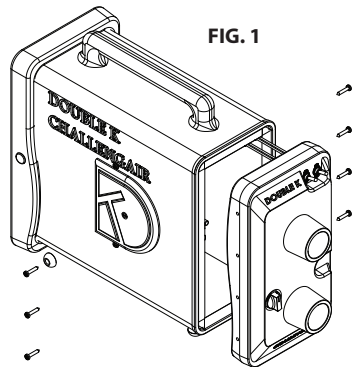

FIG. 1
**To Check and/or Replace Brushes:** (a) Unplug electrical cord from wall outlet. (b) Detach dryer faceplate by loosening the fastening screws. (Fig. 1) . (c) Remove front faceplate and set aside (motors and brushes are now visible and accessible). (Fig. 2) . (d) Find the flag connector on the top of the brush assembly. There is a wire leading to this connector. (e) Place a flathead screwdriver with a fine tip between the flag connector and the plastic brush housing. (f) Twist the screwdriver back and forth and gently wedge the flag connector out of the brush assembly. (g) Loosen the two brush assembly retainer bracket screws. (h) Remove the brush assembly. (i) Replace the brush assembly with the new one, making sure that the small tab on the bottom is fitted onto the corresponding slot on the motor frame. (j) Replace the brush assembly retainer bracket and tighten the screws which hold it in place. (k) Attach the flag connector to the top of the new brush in the same position as the previous brush. (l) Repeat these steps for the brush on the other side of the motor.